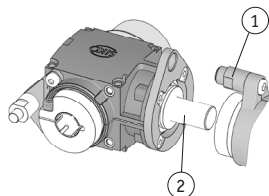
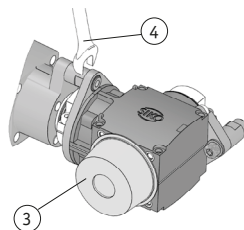

Fig. 1: Mounting
Fig. 2: Fastening torque for screws
**Mounting actuator with the angular gear (Fig. 1, Fig. 2):**
1. Fit the torque support B (in the accessory kit) ① loosely to the actuator ③ and loosen the M4 screw in the clamping ring of the actuator ③.
2. Slide the actuator gear on the shaft ② until the torque support B ① has reached the stopper. You may slightly adjust the torque support to the installation conditions via a long hole).
3. Tighten the clamp ring screw ③ by applying 3 Nm.
4. Tighten the screw for the torque support B ① by applying max. 2 Nm. Lock using a size 10 open wrench ④.